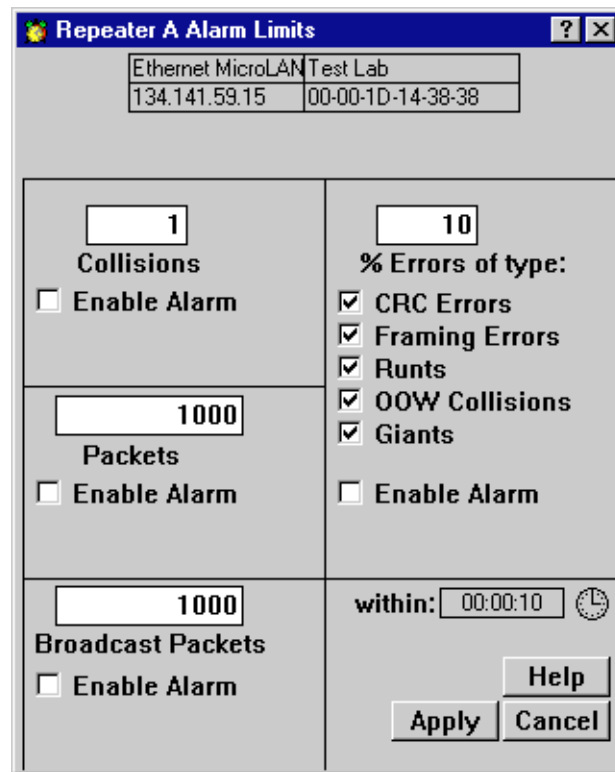

Figure 5-6. The Repeater Alarm Limits Window
3. Click on **Alarm Limits**. The Repeater Alarm Limits window, Figure 5-6, opens.
2. Click on **Trap Selection**. The Repeater Trap Selection window, Figure 5-6, opens.